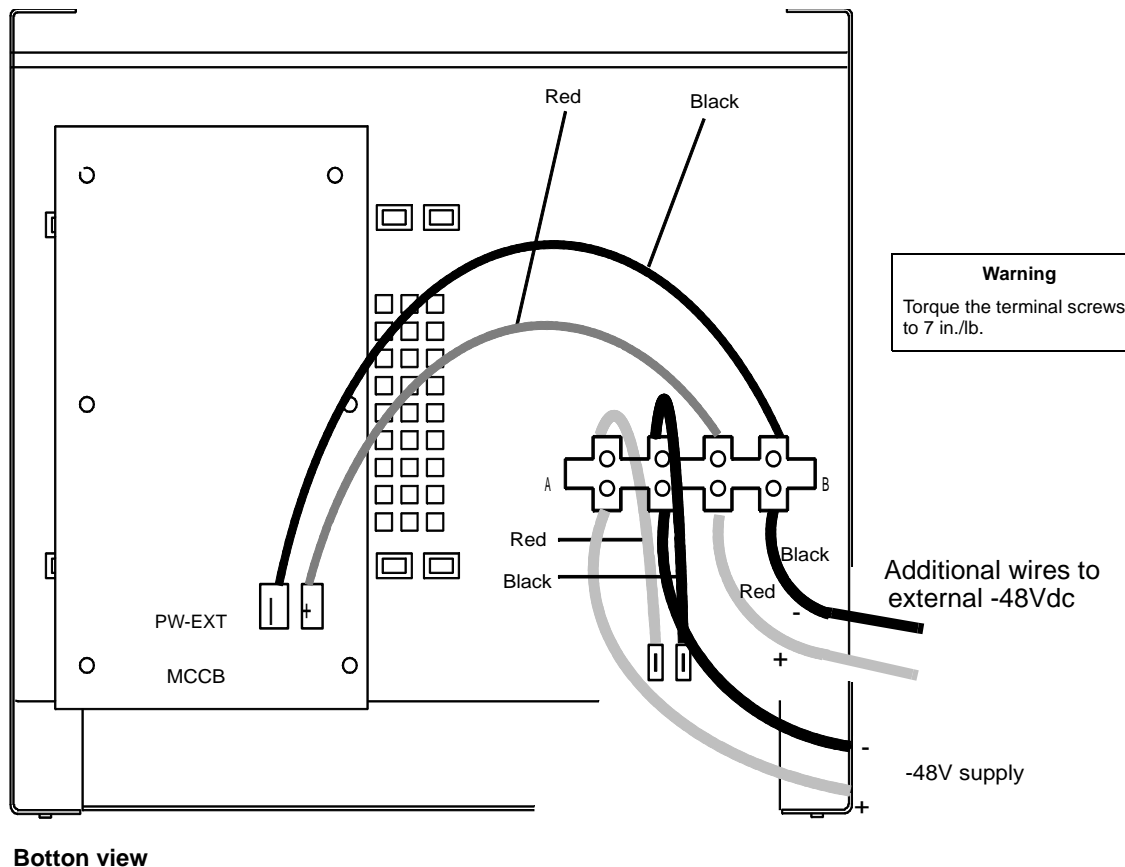

Fig. 19-10 Power Connection to the Modular Cabinet
- Cable #190253 (red cable) in two locations: between terminal block A and filter and between terminal block B and MCCB terminal PW-EXT (see Figure 19-10).
- Cable #190254 (black cable) in two locations: between terminal block A and filter and between terminal block B and MCCB terminal PW-BP (see Fig. 19-10).